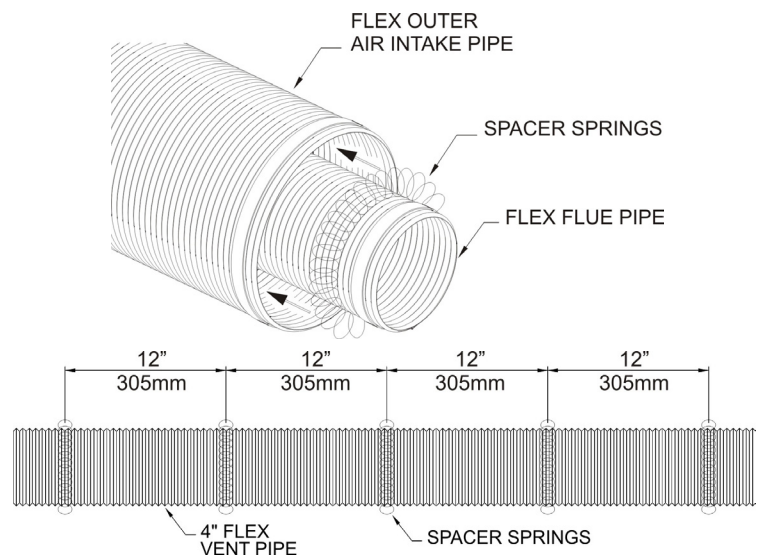

Figure 23
9. Install the spring spacers provided around the 4" diameter flex flue at 1 foot intervals, then slide the flue pipe with spacers into the 7" diameter outer flex vent pipe. Make sure the springs are spaced evenly starting at 12 inches from the fireplace collar. **See Figure 23.**